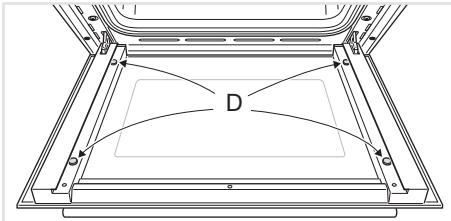

Fig. 12.38
- Check that the four rubber pads are in place ("D" in fig. 12.38).